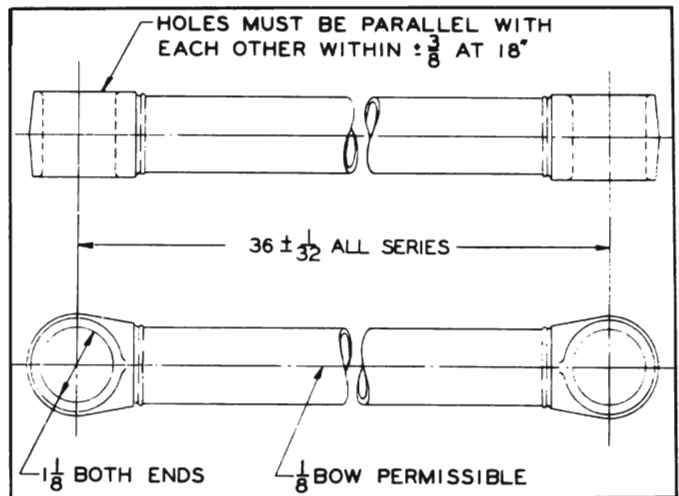

Figure 6-25—Radius Rod Dimensions
3. Check radius rod for twist and bow, which should be within limits shown in figure 6-25. If rod is twisted or bowed it must be straightened *without heating*; otherwise, replace with a new part.